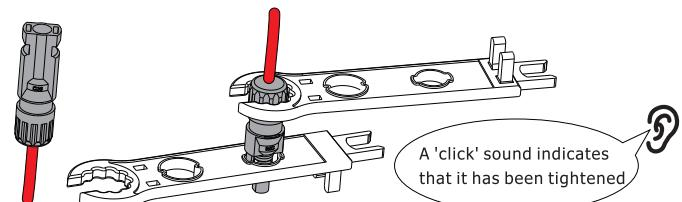

Figure 4.1-3 Connector with cap nut screwed on
Step3. Insert the contact pin to the top part of the connector and completely tighten the cap nut to the top part of the connector, as shown in Figure 4.1-3.